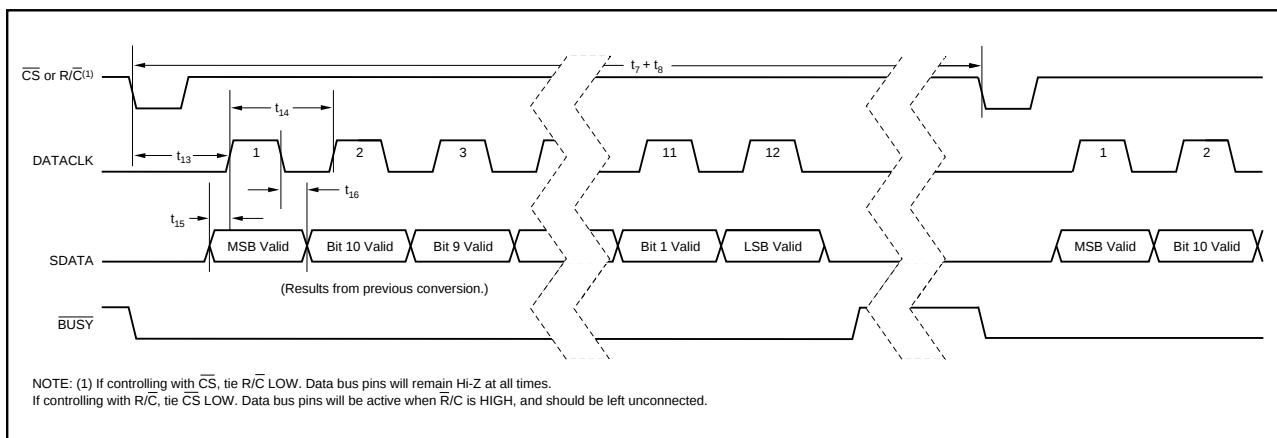

FIGURE 4. Serial Data Timing Using Internal Data Clock (TAG tied LOW).
NOTE: (1) See Figures 4, 5, and 6 for constraints on data valid from conversion "n-1".
To use the internal data clock, tie $\text{EXT}/\overline{\text{INT}}$ (pin 8) LOW. The combination of $R/\overline{C}$ (pin 22) and $\overline{CS}$ (pin 23) LOW will initiate conversion 'n' and activate the internal data clock (typically 900kHz clock rate). The ADS7806 will output 12 bits of valid data, MSB first, from conversion 'n-1' on SDATA (pin 19), synchronized to 12 clock pulses output on DATACLK (pin 18). The data will be valid on both the rising and falling edges of the internal data clock. The rising edge of $\overline{BUSY}$ (pin 24) can be used to latch the data. After the 12th clock pulse, DATACLK will remain LOW until the next conversion is initiated, while SDATA will go to whatever logic level was input on TAG (pin 20) during the first clock pulse. Refer to Table VI and Figure 4.